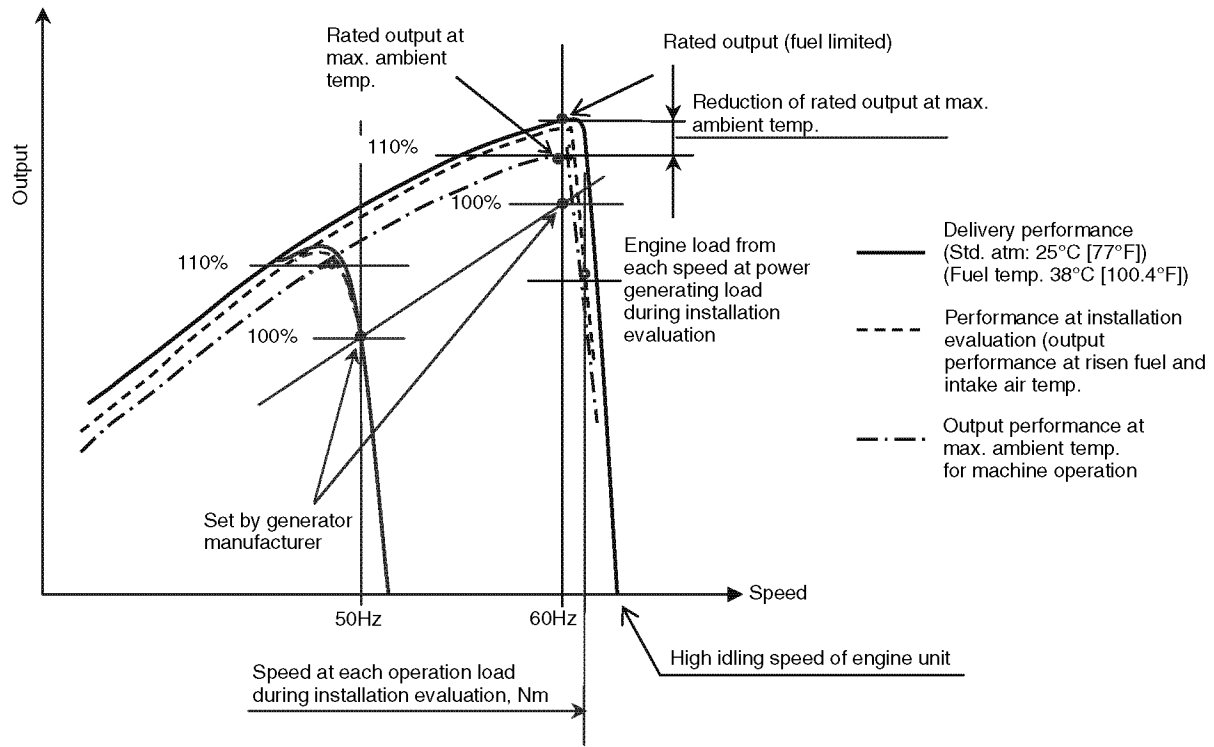

Figure 8-11
The load of the machine has already been measured at the output matching test *Evaluation of Machine Load on page 8-17*. Plot the load on the performance curve shown with dot-and-dash line in **(Figure 8-11)** to perform the following examination.
- Check whether the load at the rated output of generator that is measured at the output matching test is equal to or less than the engine's continuous rating obtained from the estimated performance curve (dot-and-dash line) at the maximum ambient temperature shown in **(Figure 8-11)**.